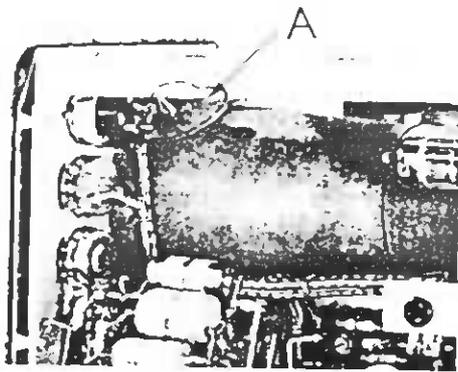

Fig. 22. Anode connection
- Remove anode connection "A" (Fig. 22) at the top of the cathode ray tube.